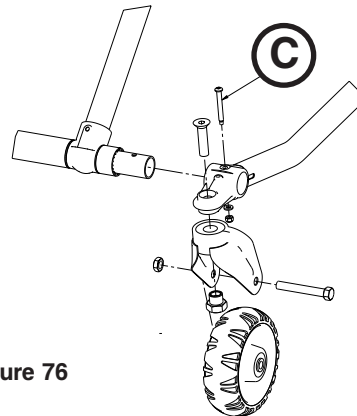
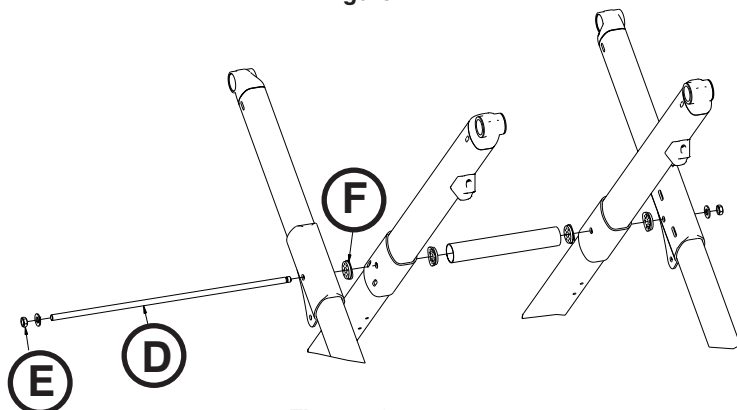

Figure 76
Figure 78
4. Using a 3/8" and 7/16" combination wrench, remove all four caster mount bolts (C) that secure the outer lift tube assemblies to the foot base tubes (Figure 76).
5. Using two 9/16" combination wrenches and a dead blow hammer, remove the base connecting rod (D) and centerlock hex jam nut (E).
Note: Save the bearings (F) that fall out. (Figure 78).